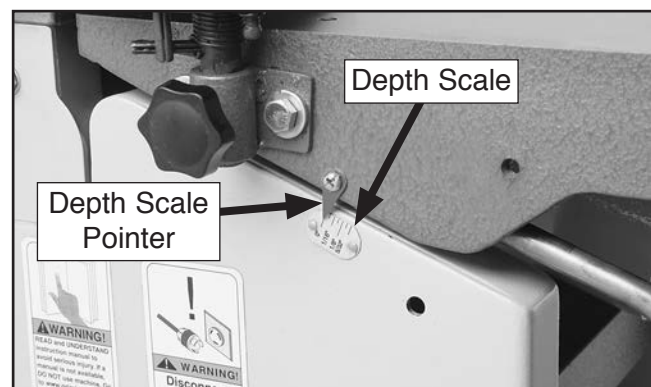

Figure 81. Depth scale adjusted to "0" position.
4. Using a screwdriver, adjust the scale pointer to zero (see **Figure 81**).